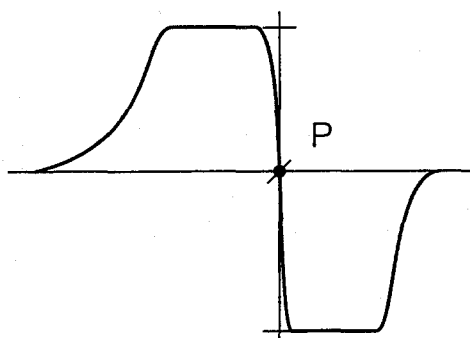

Fig. 5
1. Adjust the AGC bias to make the AFC waveform just starting clipped (10vp-p). (See figure 5)